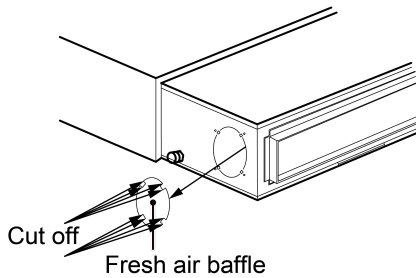

Fig 4.25
- (1) If a fresh air duct is needed, remove the fresh air baffle as shown in Fig 4.25. If a fresh air duct is not needed, block the gap on the baffle with sponge.